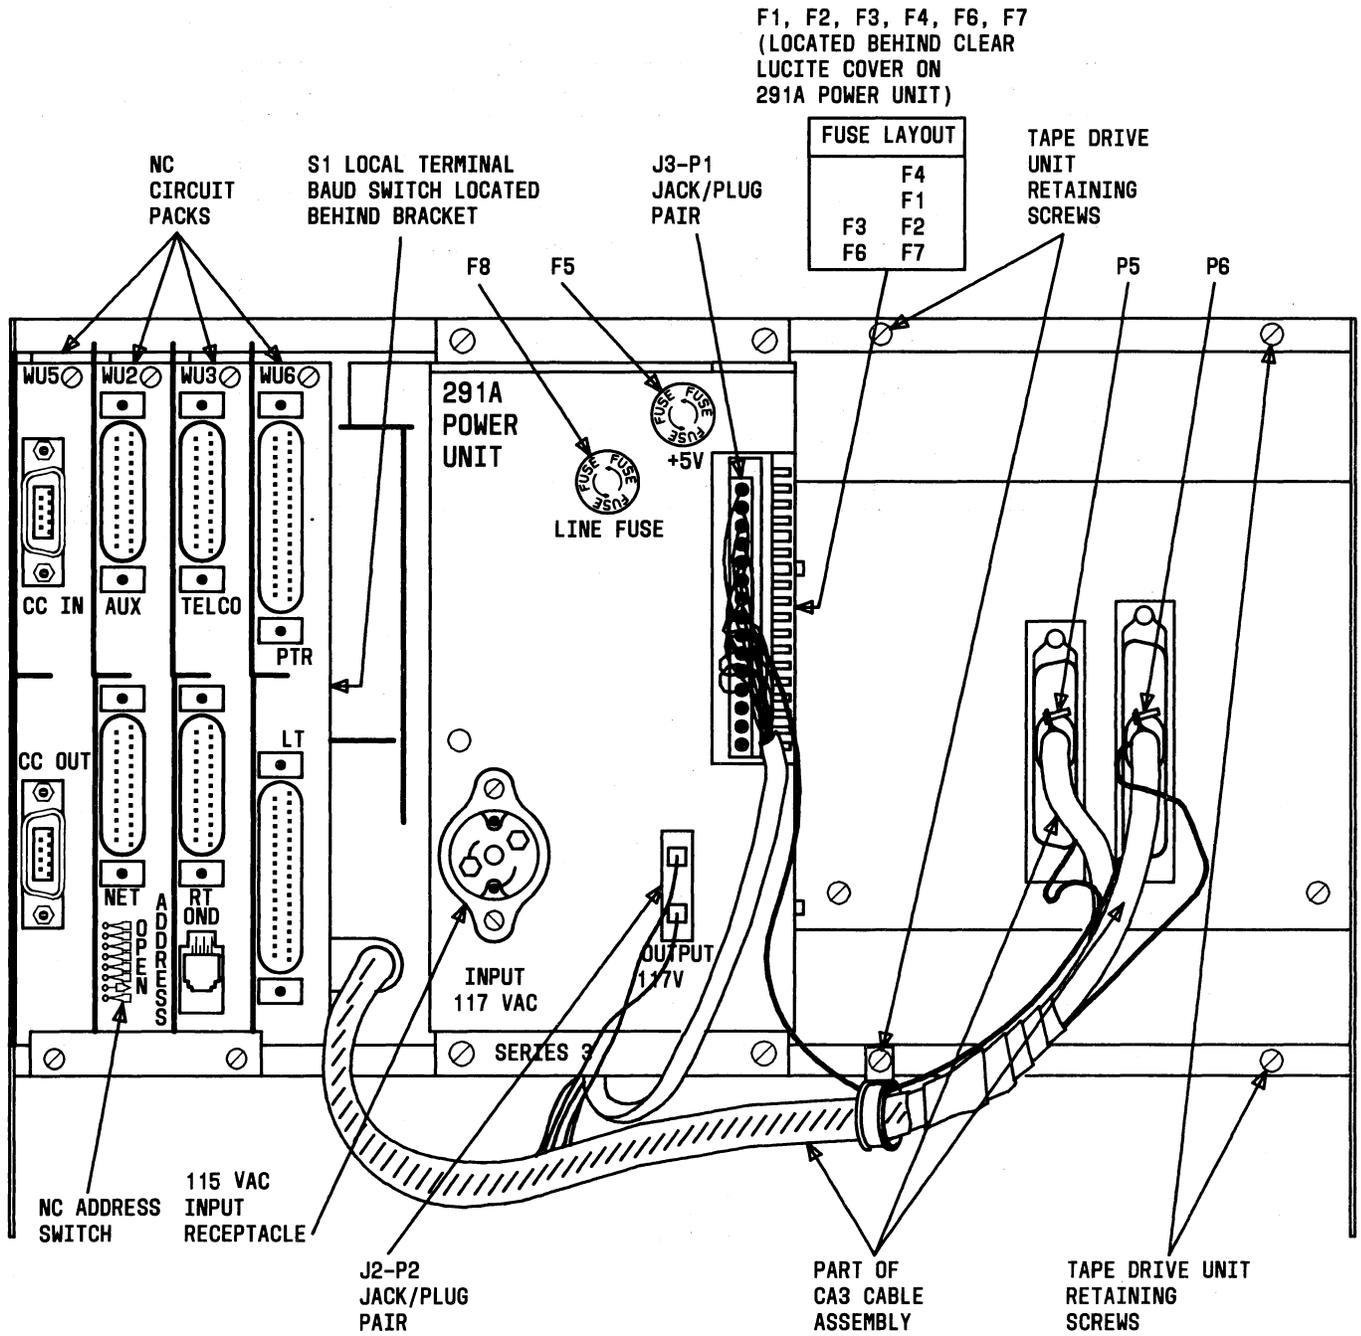
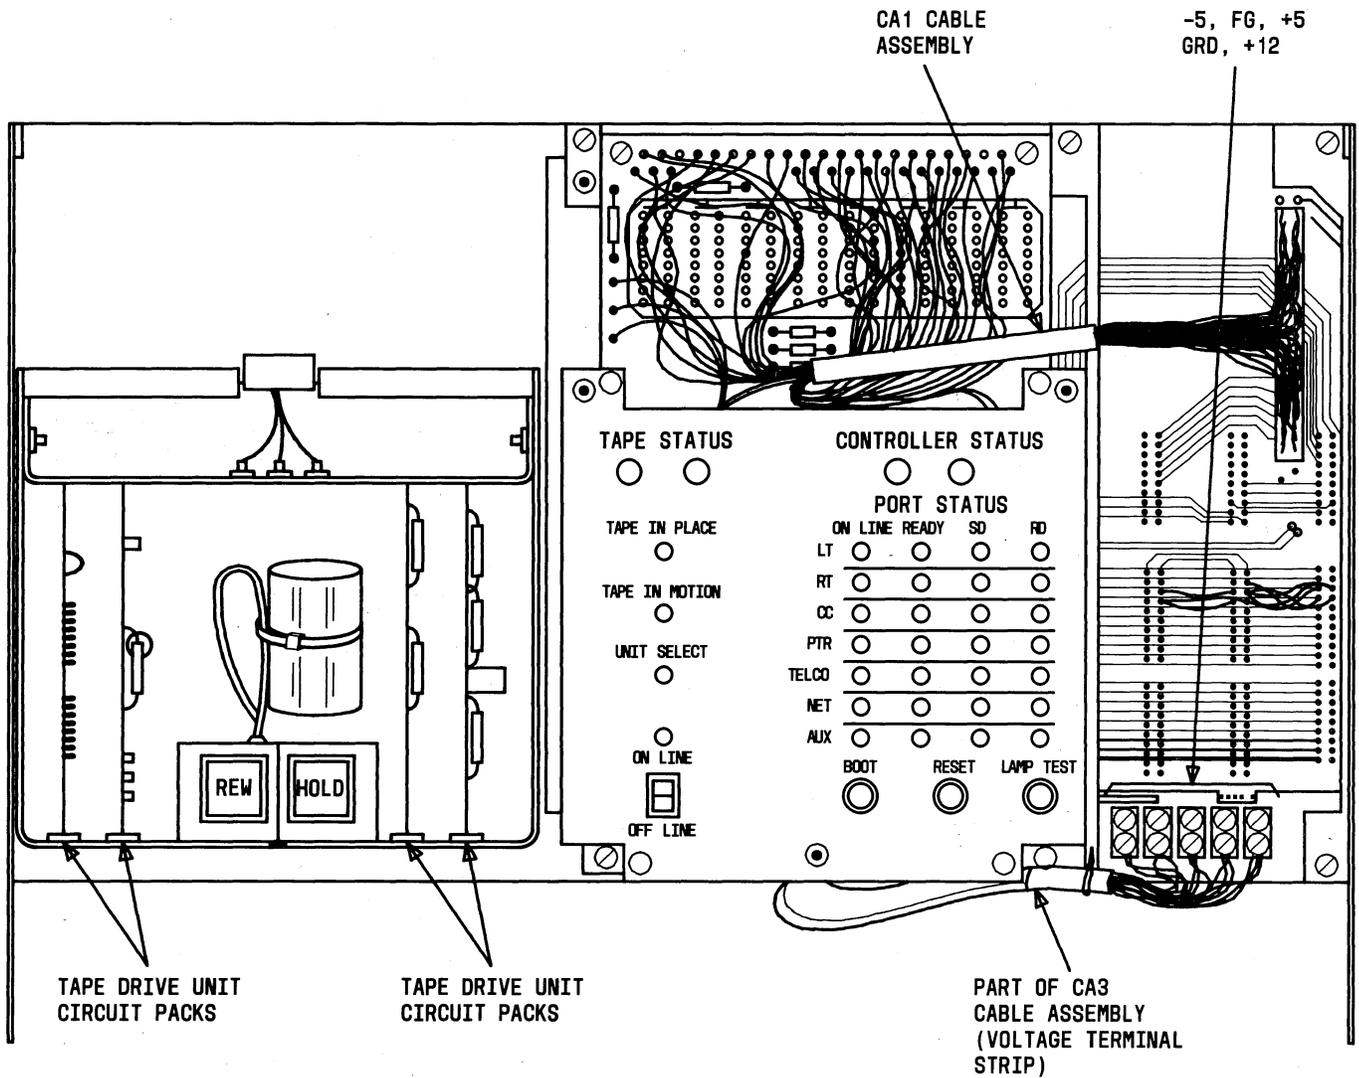

Fig. 3—NC Rear View Showing Fuses, Jack/Plugs, and NC Address Switch
Fig. 4—NC Front View (Cover Removed) Showing CA1 and CA3 (Voltage Terminal Strip) Cable Assembly
2. Remove plugs P5 and P6 (Fig. 3) from rear of tape drive unit.
3. Remove tape drive unit retaining screws (Fig. 3).
2. Remove NC circuit packs (Fig. 3).
**3.08** When a power problem is suspected refer to Fig. 2 for the troubleshooting sequence. Figure 3 shows the location of the fuse holder and connectors and Fig. 4 shows the location the voltage terminal strip on the NC necessary for power supply troubleshooting.